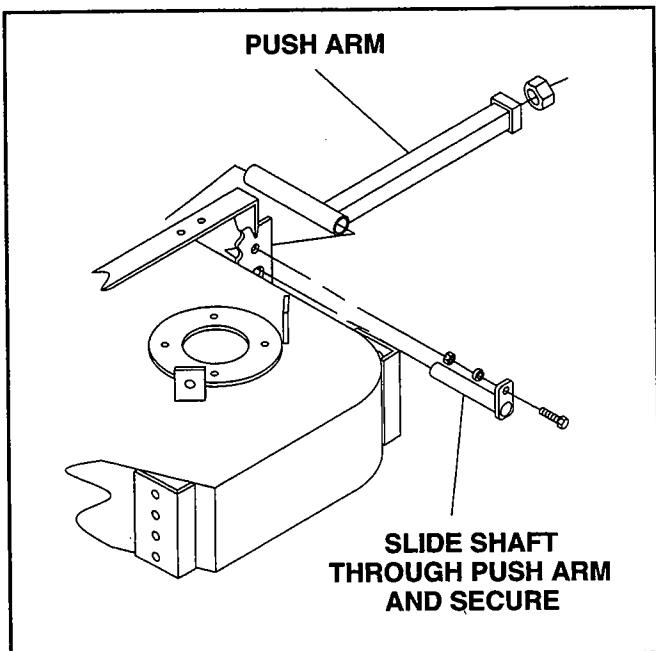

Figure 3
9. Remove shaft from deck mounting bracket. Line up holes in deck mounting bracket with holes in push arm. Attach cutter deck to push arms by sliding shaft through holes after aligning. (**See Figure 3**) Secure with existing 5/16-18 x 1" hex head bolt, 5/16" lockwasher, and 5/16" hex nut.